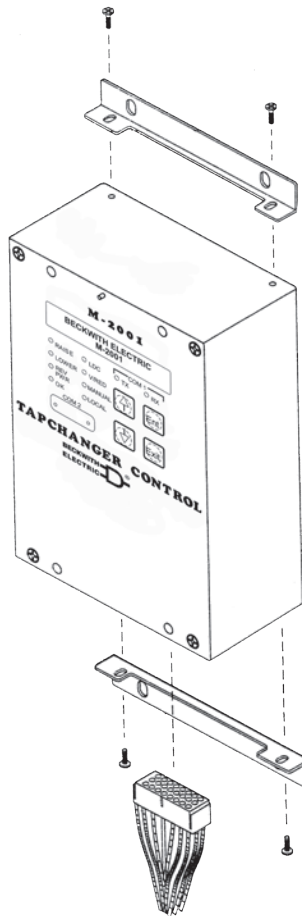

Figure 1 M-2050 Mounting
1. Utilizing the four screws provided in the drawstring bag, mount the two right-angle mounting brackets to the M-2001 Digital Tapchanger Control (refer to Figure 1, M-2050 Mounting).